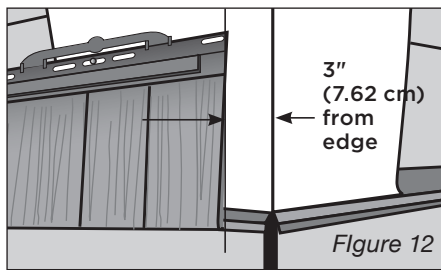

Figure 12
1. Install the first Heartwood PRO panel 3" (7.62 cm) from the edge of the outside wall (*Figure 12*).